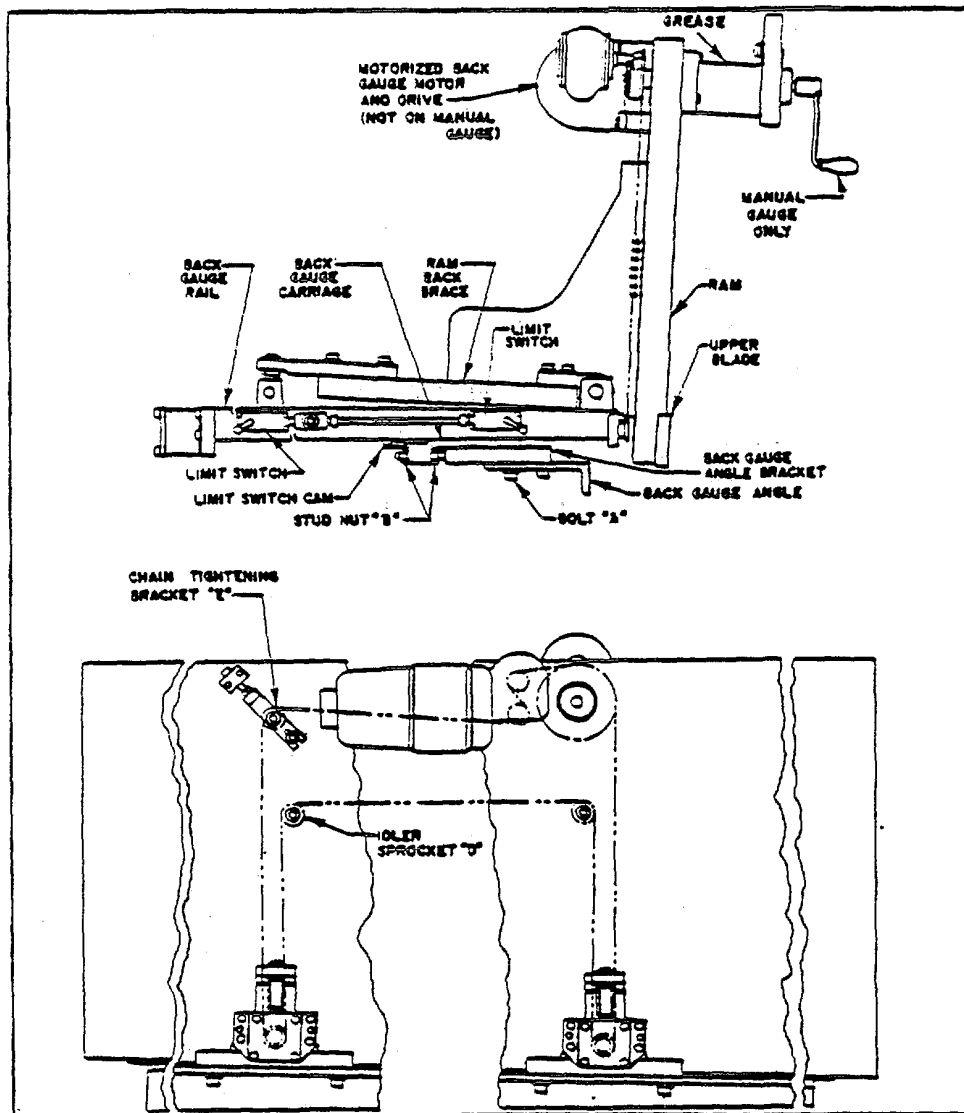

Figure 27. Back Gauge Angle - Adjustment for Parallelism
- C. If the amount of adjustment required is more than 1/16", lock idler sprocket "D" (Figure 27) by placing piece of material between the slide and the sprocket. This will prevent sagging of the chain between the idlers while the next step is being performed.
- D. Loosen chain tightening bracket "E" (Figure 27) allowing the chain to drop clear of the sprocket on the end of the back gauge screw.